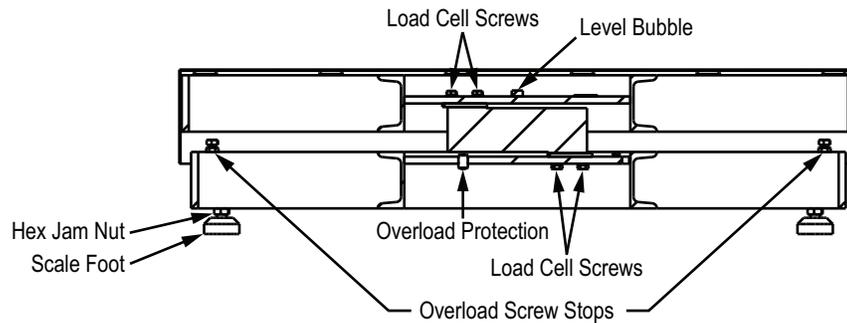

Figure 3-1. Load Cell Mount
2. Lift off the scale top cover and locate the four upper load cell screws. Use a 1/2" wrench to unscrew and remove those four load cell screws (Figure 3-1).